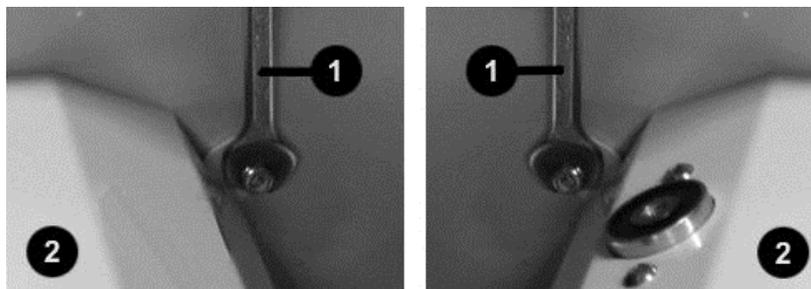
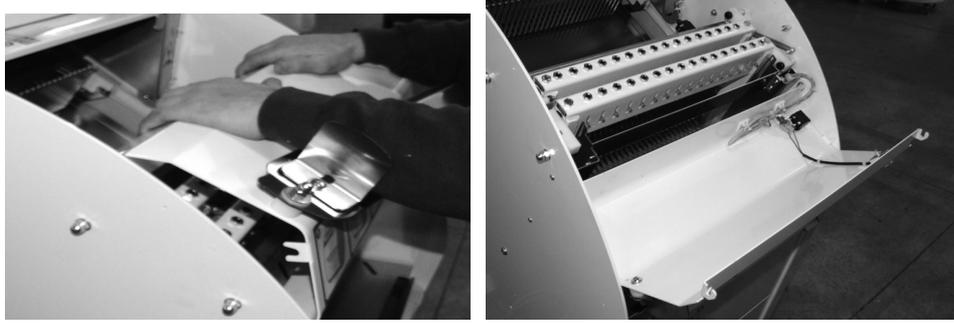

Figure 9
Figure 11
3. Loosen the two nuts at the side ref. 1 that secure the guard ref. 2 (tile) which is above the blades; Figure 9
7. Slowly turn the guard (tile) downwards and then open it completely, Figure 11;
23. Reposition the cover (tile) Figure 11 and (checking that the electric wires pass without tangling), tighten the two nuts at the sides ref. 1 Figure 9;